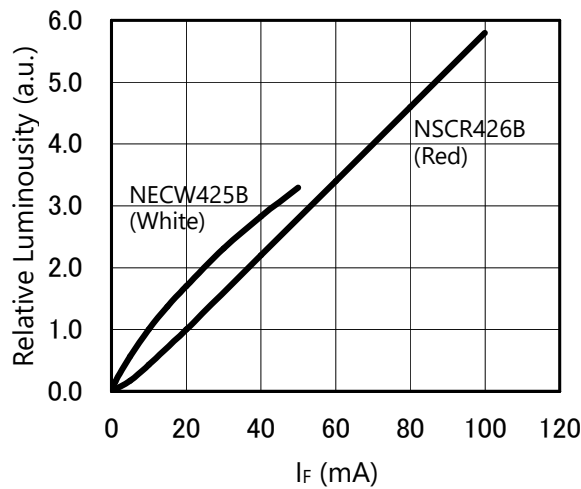

Fig. 1: Forward Current vs. Relative Luminosity of NECW425B and NSCR426B
i) Please refer to Fig.1 for NECW425B.
a) The Fig.1 shows:
b) Also the Fig.1 shows: